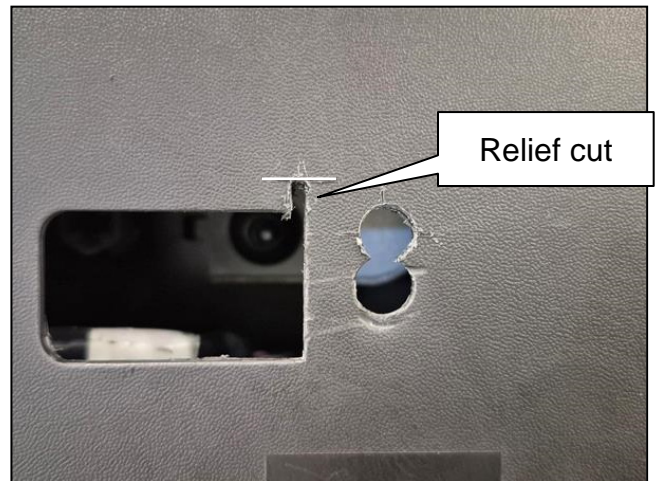

Figure 12
7. As shown in Figure 12, use a file or similar tool to make a vertical relief cut in the top outboard corner of the square cut-out up to the scribe mark (made in step 6).